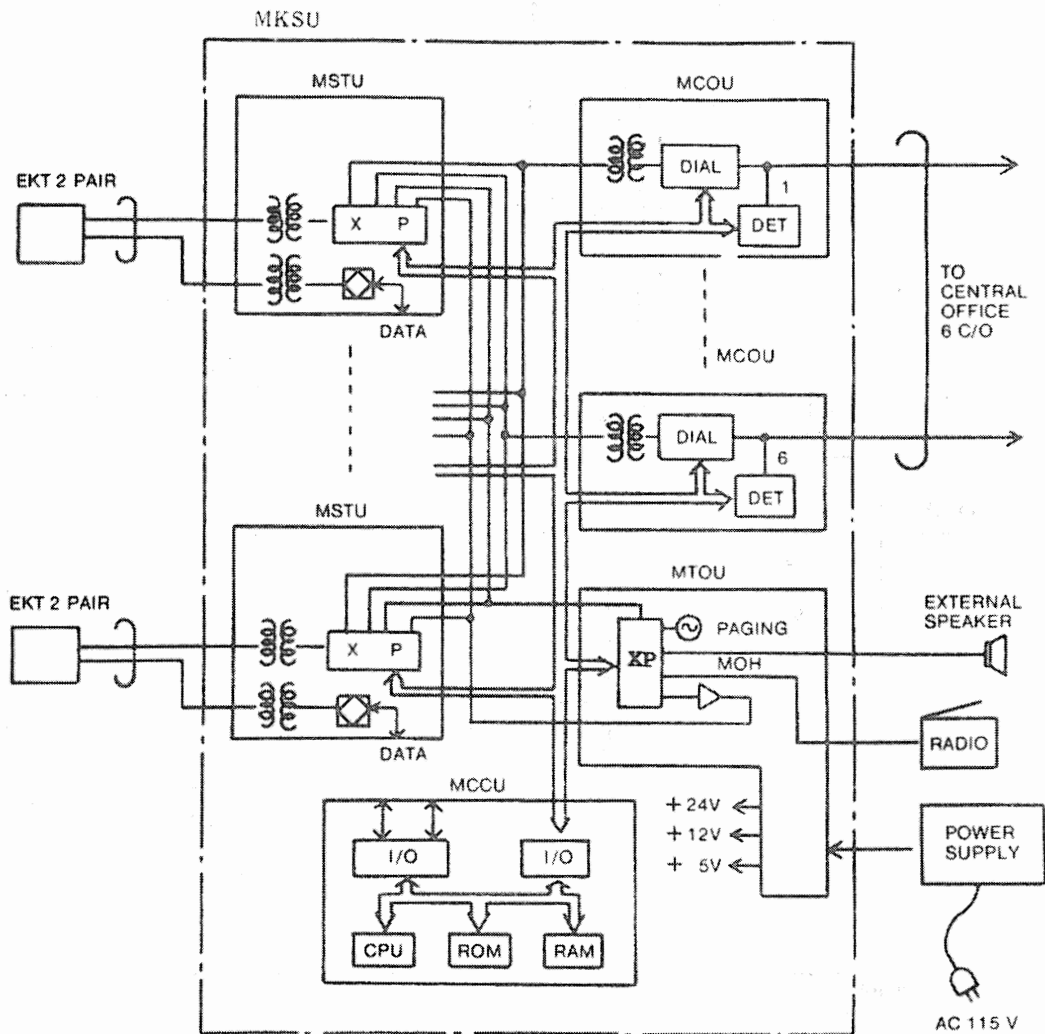

FIGURE 6
02.02 A functional block diagram of the STRATA VI MKSU is shown in Figure 6 (page 6); it consists of station interfaces (MSTU), which include a solid-state space division matrix; CO line interfaces (MCOU) and central control equipment (MTOU and MCCU).